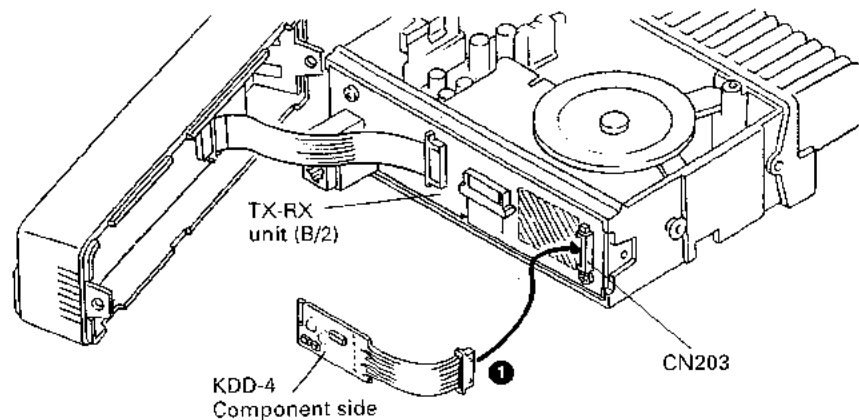

Fig. 3
2. Connect the KDD-4 to the TX-RX unit (B/2). (Fig. 3)